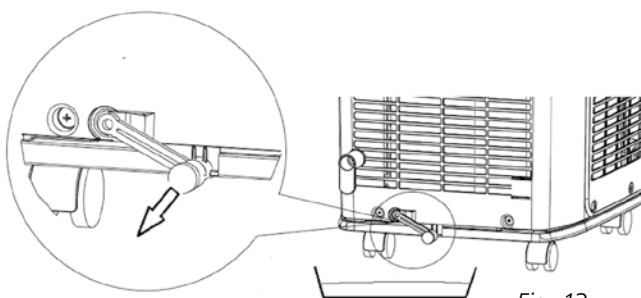

Fig. 13
- 4 Remove the rubber plug from the drain tube and let the water run out. ( $\pm 0.5$  litres). See fig. 13.